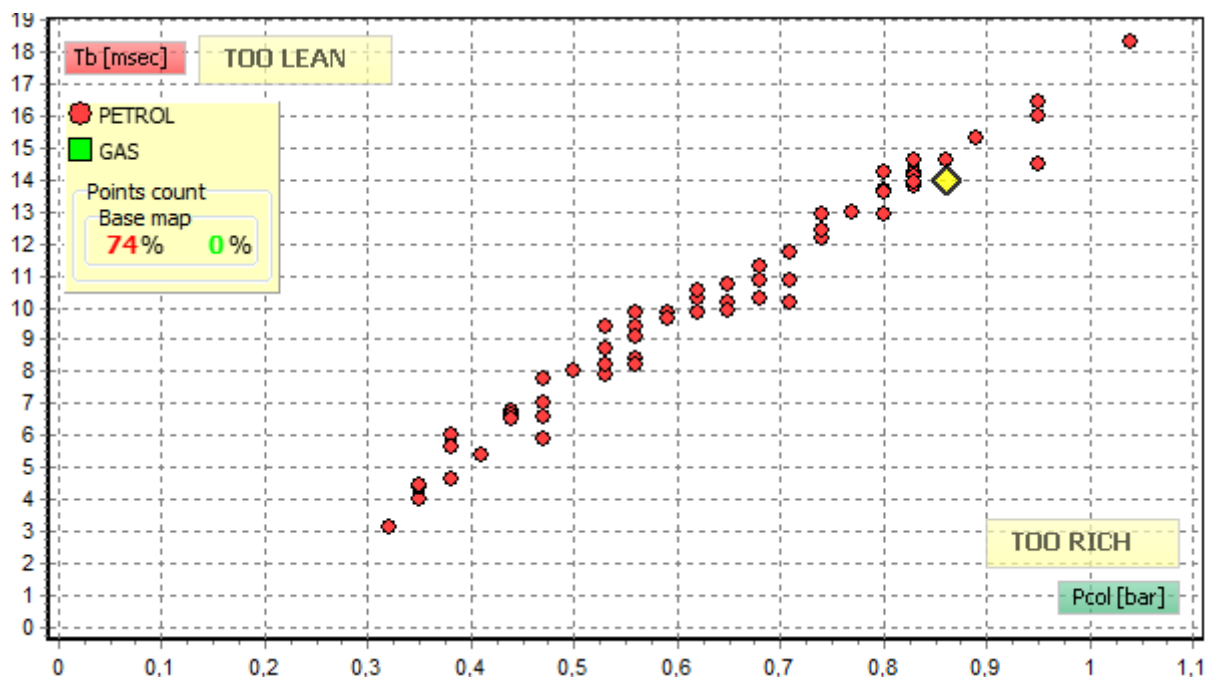

Fig. 3.40 Collected petrol map.
Time of collecting may be adjusted, take under consideration that there should be about five points collected during drive on each gear. Points should be spaced equally in the whole range of load. Collected petrol map may look like on Fig. 3.40.
7. If used gas injectors were used for the first time during autocalibration, their characteristics may change drastically during first drive on gas. Therefore first autocalibration may not give correct results. It is recommended to check if idle model is still correct after first drive on petrol by comparing petrol time at idle on gas and petrol time at idle on petrol (figures 3.40, 3.41).